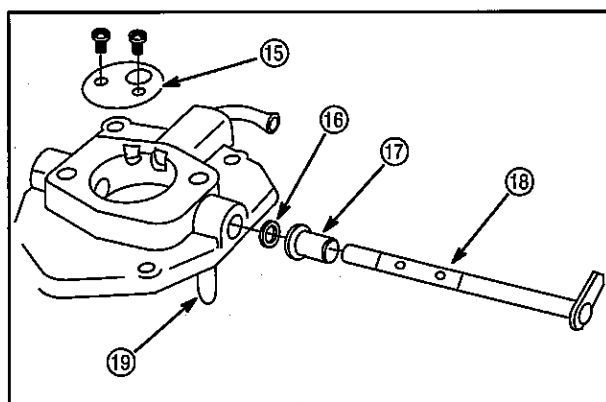

Fig. 83
Support upper body on a vise or wood block so that emulsion-tube (19) will not be damaged, **Fig. 83**.
11. Mark choke plate (15) before removal to ensure reinstallation in the original position.
12. Remove choke shaft (18) and spacer (17).
13. Remove seal (16).